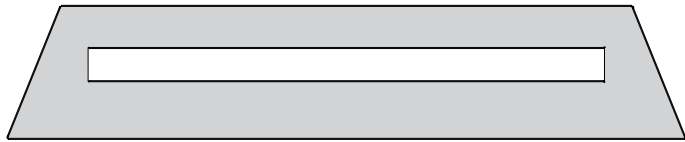

Figure 44
2. Apply the accessory decorative media to the shaded area only. **See Figure 44.** Use enough to cover the floor of the fireplace, but do not allow the media to reach higher than the flange surrounding the burner. Never place decorative media inside the flange surrounding the burner itself. This fireplace can use crushed glass, glass droplets (1/2 inch), glass drops (1 inch), or ceramic fiber rocks and pebbles. Mix colors and glass types, but do not exceed the recommended amount of decorative media.